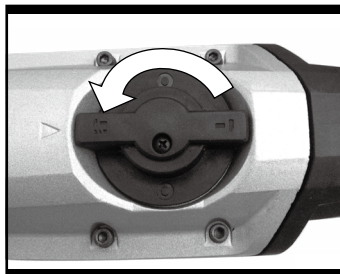

Fig. 5
6. HAMMER DRILL FUNCTION (See Fig 5)